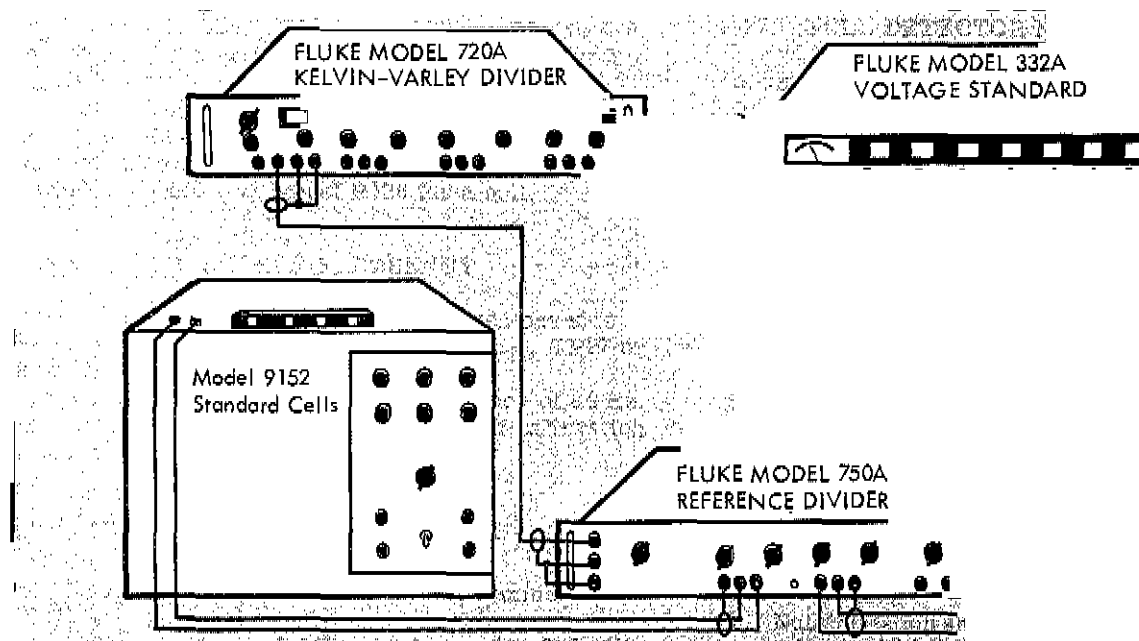

Figure 4-4. REFERENCE SUPPLY AND EXTERNAL KELVIN-VARLEY DIVIDER CHECK SETUP
(1) Set POWER switch to STANDBY/RESET on 332A Voltage Calibrator.
(2) Connect equipment as shown in Figure 4-4.
(3) Set 332A VOLTAGE RANGE to 10 and voltage dials to 10.000000.
(4) Set INPUT switch and OUTPUT switch on 750A Reference Divider to 10.
(5) Set 845A Null Detector to 100 MICROVOLTS.
(6) Set 750A STANDARD CELL VOLTAGE switches to voltage of standard cell.
(7) Set 332A POWER switch to ON.
(8) Adjust 332A voltage dials for a null in each successively more sensitive null range on 845A. Zero 845A as necessary.
(9) Voltages of 1.111111, 2.222222, ..., 9.999999 volts dc are available at the OUTPUT terminals of the 720A Kelvin-Varley Divider when all 720A voltage dials are set to 1, 2, ..., 9 respectively.